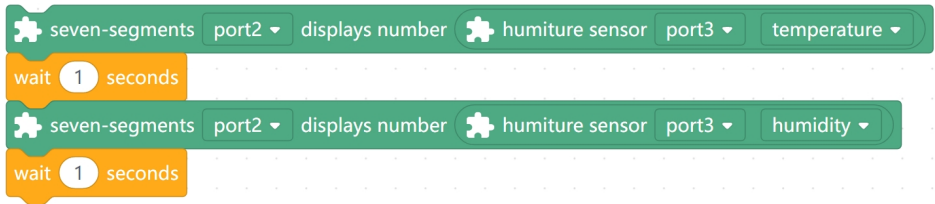

FIGURE 8 Combine "seven-segments" and "wait" blocks. Update the ports to match your robot.
11. Drag two "wait" blocks from the Control palette onto the programming area. Connect the "seven-segments" blocks with the "wait" blocks (see Figure 8).
- The first "seven-segments" block should display temperature and the second "seven-segments" block should display humidity. Both blocks are sent to display humidity by default, so all you need to do is change the first block. To do this, click the humidity drop-down menu in the first "seven-segments" block, and select temperature (see Figure 8).
- For both "seven-segments" blocks, update the port selections to match the ports to which the 7-Segment Display and the Temperature and Humidity Sensor are connected. The 7-Segment Display is connected to port 2 and the Temperature and Humidity Sensor is connected to port 3 (see Figure 8).